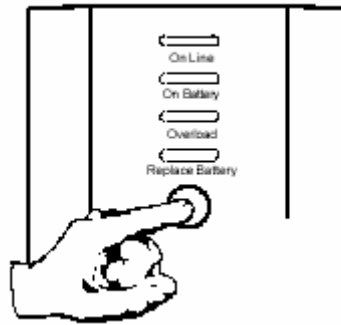

Figure 2.6
1. The main power “ON” switch for the electronic console is the button on the front of the UPS (Figure 2.6).